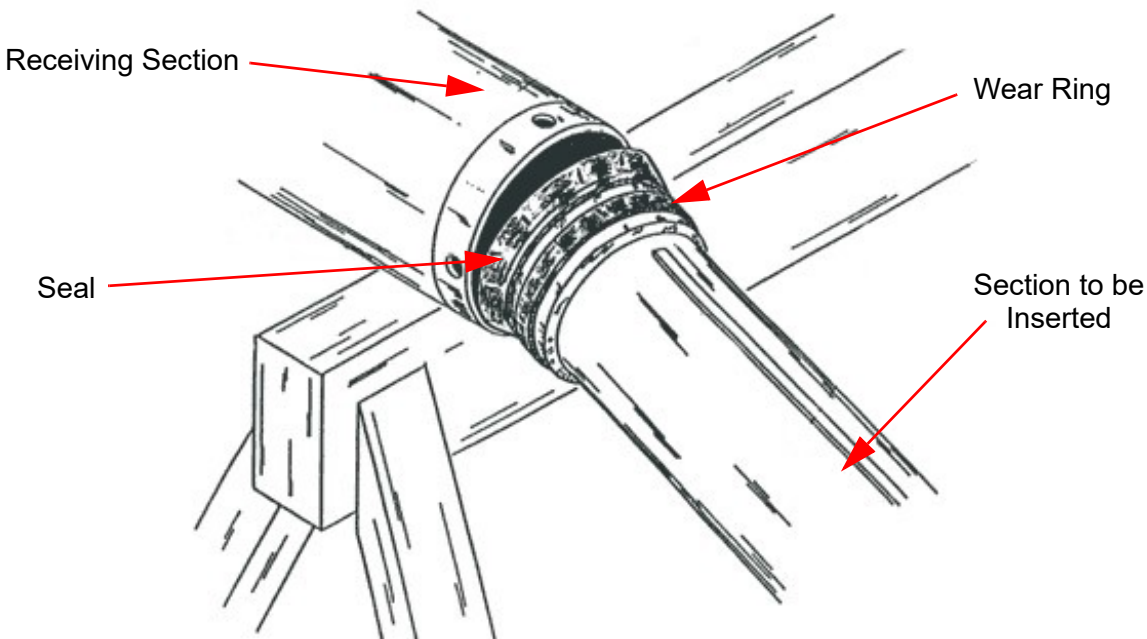

Figure 7-1 Seal Replacement
13. Using a second person or a brace to support the top end, hold the next tube so the top end of the tube is at a lower elevation than the seal end. Rest the lip of the seal on the inside of the receiving tube (Figure 7-1). Use care to follow all applicable lifting precautions whenever lifting the mast or components of the mast.